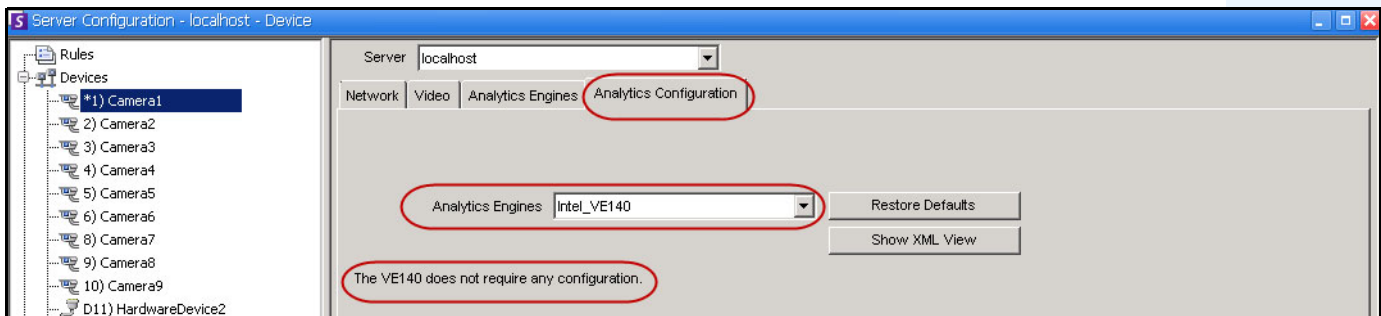

Figure 6. Analytics Configuration tab for VE140
5. Click **OK** to save settings. No configuration is required for the VE140 from the **Analytics Configuration** tab (Figure 6).